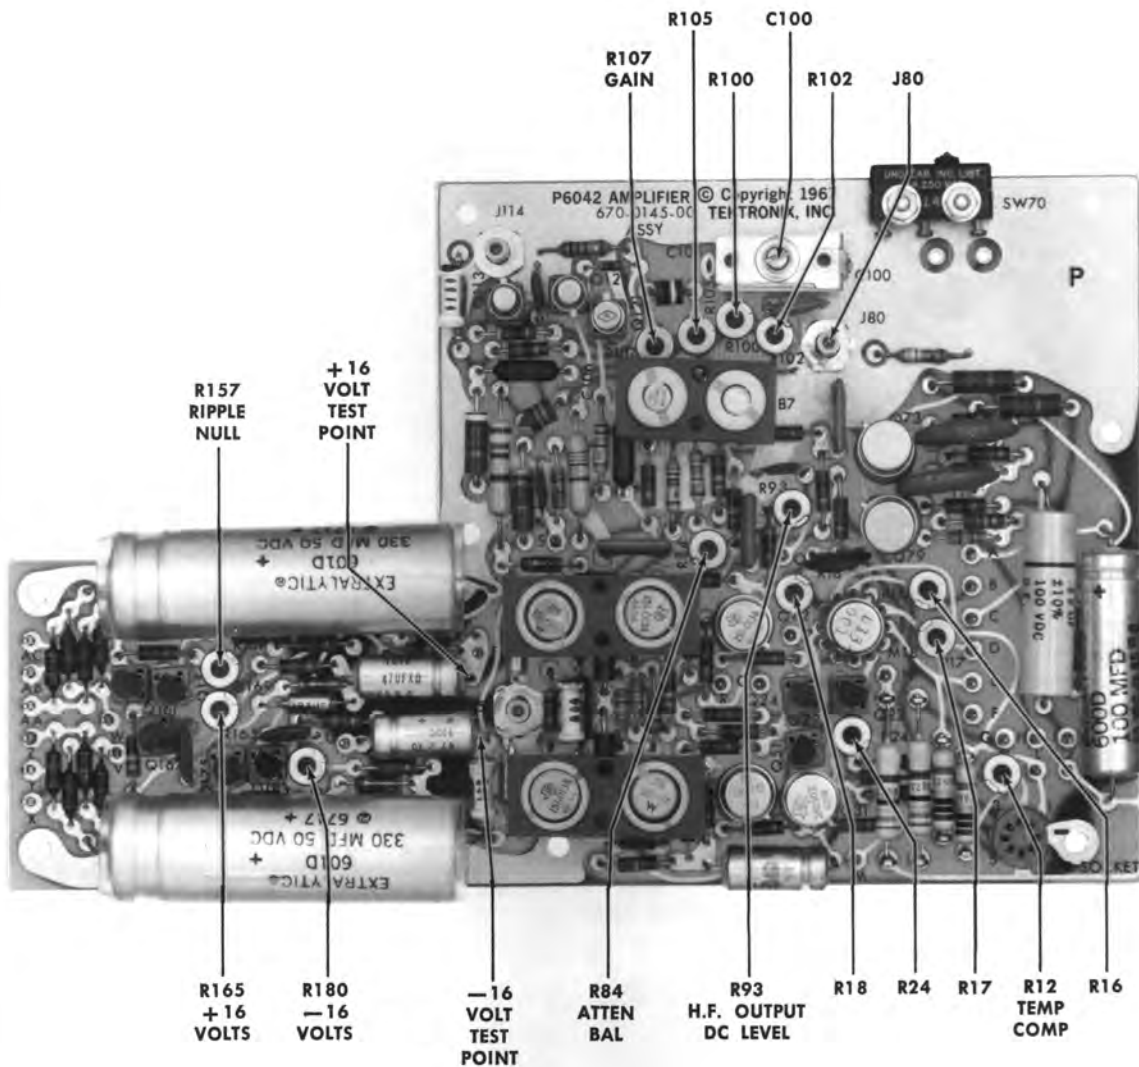

Fig. 6-3. Location of internal adjustments and test points.
Before starting the procedure, preset R16, R17, and R18 counterclockwise. Do not preset any other internal calibration controls unless they are known to be significantly out of adjustment. In this case, set the remaining controls, with the exception of R12 to midrange. Do not adjust R12, which is a part of the temperature compensation network. This is set at the factory according to the requirements of the Hall device. If the probe transformer is replaced, contact your local field office for adjustment procedure. Fig. 6-3 shows the location of internal adjustments.
a. Using an ohmmeter, measure the resistance to ground at the +16 volt test point (see Fig. 6-3 for location of test point). Check for  $\geq 300 \Omega$ . Connect positive probe to test point.
b. Check the resistance to ground at the -16 volt test point (see Fig. 6-3) for  $\geq 200 \Omega$ . Connect negative probe to test point.
①
a. Remove the connection from J80, on the amplifier circuit board. See Fig. 6-3 for location of J80.